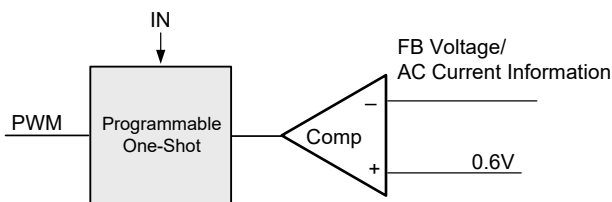

Figure 3. Simplified Control Schematic of AOZ2263NQi-12
The simplified control schematic is shown in Figure 3. The high-side switch on-time is determined solely by a one-shot whose pulse width can be programmed by one external resistor and is inversely proportional to input voltage (IN). The one-shot is triggered when the internal 0.6V is higher than the combined information of FB voltage and the AC current information of inductor, which is processed and obtained through the sensed lower-side MOSFET current once it turns-on. The added AC current information can help the stability of constant-on time control even with pure ceramic output capacitors, which have very low ESR. The AC current information has no DC offset, which does not cause offset with output load change, which is fundamentally different from other V² constant-on time control schemes.